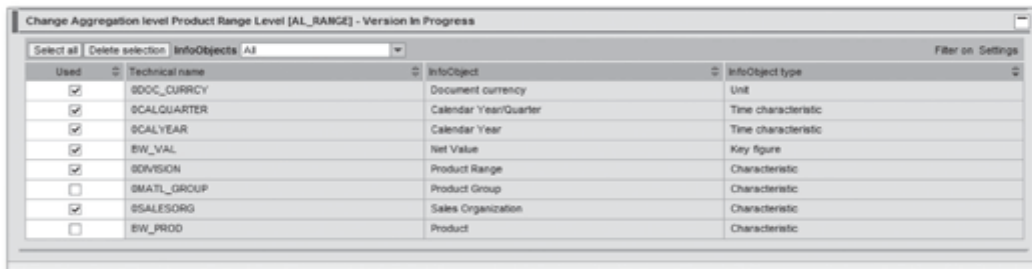

Figure 12.32 Define Aggregation Level
3. A list of all of the characteristics and key figures is displayed. You can define the aggregation level by selecting the specific characteristics and key figures, as shown in Figure 12.32.